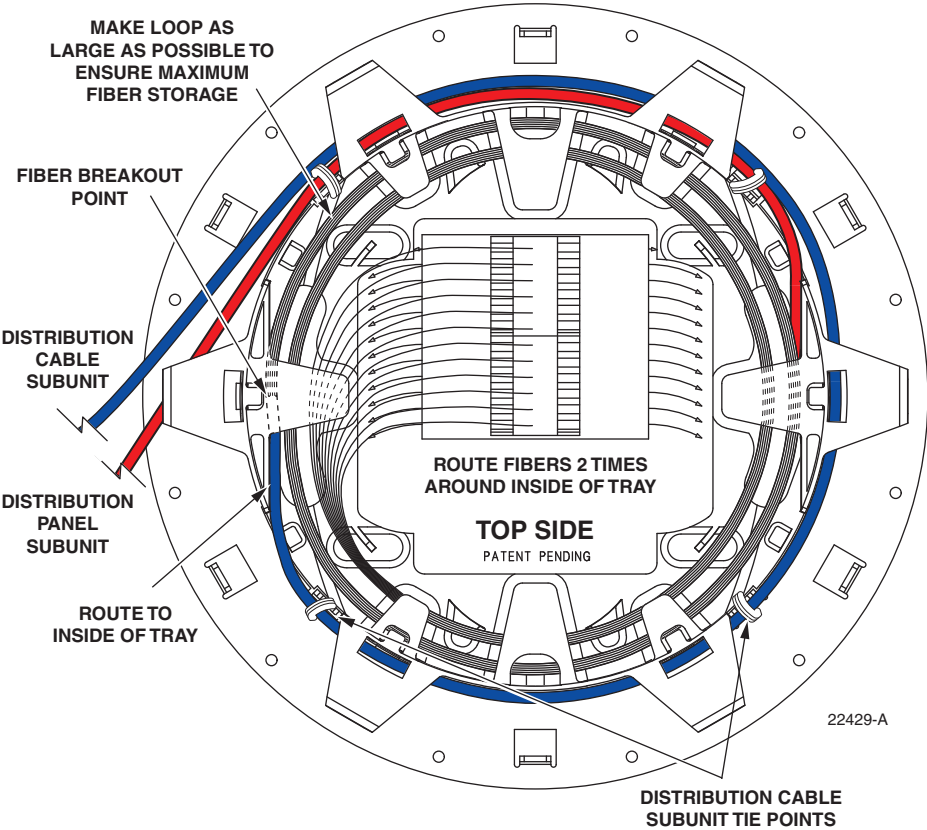

Figure 37. Installing Distribution Cable Subunit In Splice Wheel
12. Secure the distribution cable subunit to the splice wheel at the points specified in Figure 37.
13. Adjust the distribution cable subunit so the fiber breakout is positioned at the specified point (see Figure 37).